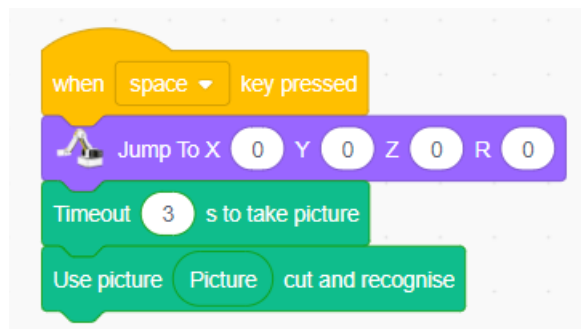

Figure 4.23 Image segmentation and recognition
Step 2: Program image segmentation and recognition, as shown in Figure 4.23.